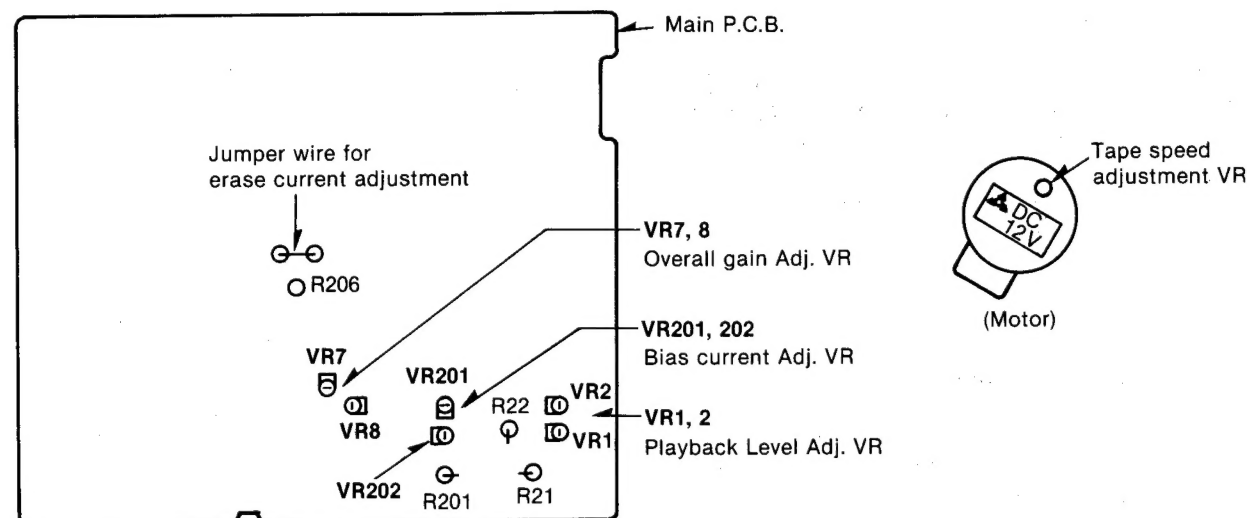
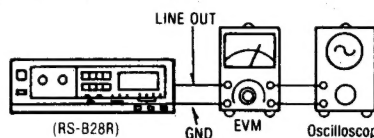
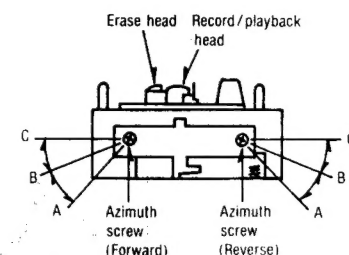

Fig. 1
Fig. 2
Fig. 3
<p>Ref. No. 1</p> <p>How to remove the case cover</p> <p>Procedure 1</p> <ul style="list-style-type: none"> Remove the 4 setscrews (1~4).  <p>Fig. 1</p>	<p>Ref. No. 3</p> <p>How to remove the meter P.C.B.</p> <p>Procedure 1 → 3</p> <ul style="list-style-type: none"> Remove the 5 setscrews (1~5), and then remove the shield angle. Push the 2 tabs aside.  <p>Fig. 3</p>
<p>Ref. No. 2</p> <p>How to remove the main P.C.B.</p> <p>Procedure 1 → 2</p> <ul style="list-style-type: none"> Remove the setscrew (1), and then remove the AC socket angle. Push the 4 tabs aside, and then pull down the back chassis. Remove the 2 setscrews (4, 5) and then remove the erase plate. Remove the 2 setscrews (2, 3). Remove Main P.C.B. in the direction of arrow A.  <p>Fig. 2</p>	<p>Ref. No. 4</p> <p>How to remove the mechanism unit</p> <p>Procedure 1 → 4</p> <ul style="list-style-type: none"> Push the eject button (see fig. 1). Remove the 2 setscrews (6, 7) (see fig. 3). Remove the 3 setscrews. (3~5)  <p>Fig. 4</p>
- The serial number plate of this product is attached to the back chassis (shown in fig. 3).
- Make connections as shown in fig. 2.
- In the forward playback mode, playback the 8kHz signal from the test tape (QZZCFM). Adjust the azimuth screw (Forward) shown in fig. 3 for maximum output L-CH and R-CH levels. When the output levels of L-CH and R-CH are not at maximum at the same point adjust as follows.
- Turn the azimuth screw (Forward) shown in fig. 3 to find angles A and C (points where peak output levels for left and right channels are obtained). Then, locate angle B between angles A and C, i.e., point where L-CH and R-CH outputs are balanced. (Refer to figs. 3 and 4.)
- In the forward playback mode, playback the 8kHz signal from the test tape (QZZCFM). Adjust the azimuth screw (Forward) shown in fig. 3 so that pointers of the two EVMs swing to maximum and a lissajous waveform as illustrated in fig. 6 is obtained on the oscilloscope.
- If measured value is not within the standard value, adjust it by using the tape speed adjustment VR shown in Fig. 1.
- Test equipment connection is shown in fig. 2.
1. Test equipment connection is shown in fig. 2.
1. If the measured value is not within the standard, adjust VR1 (L-CH) or VR2 (R-CH) (See fig. 1).
② Erase current